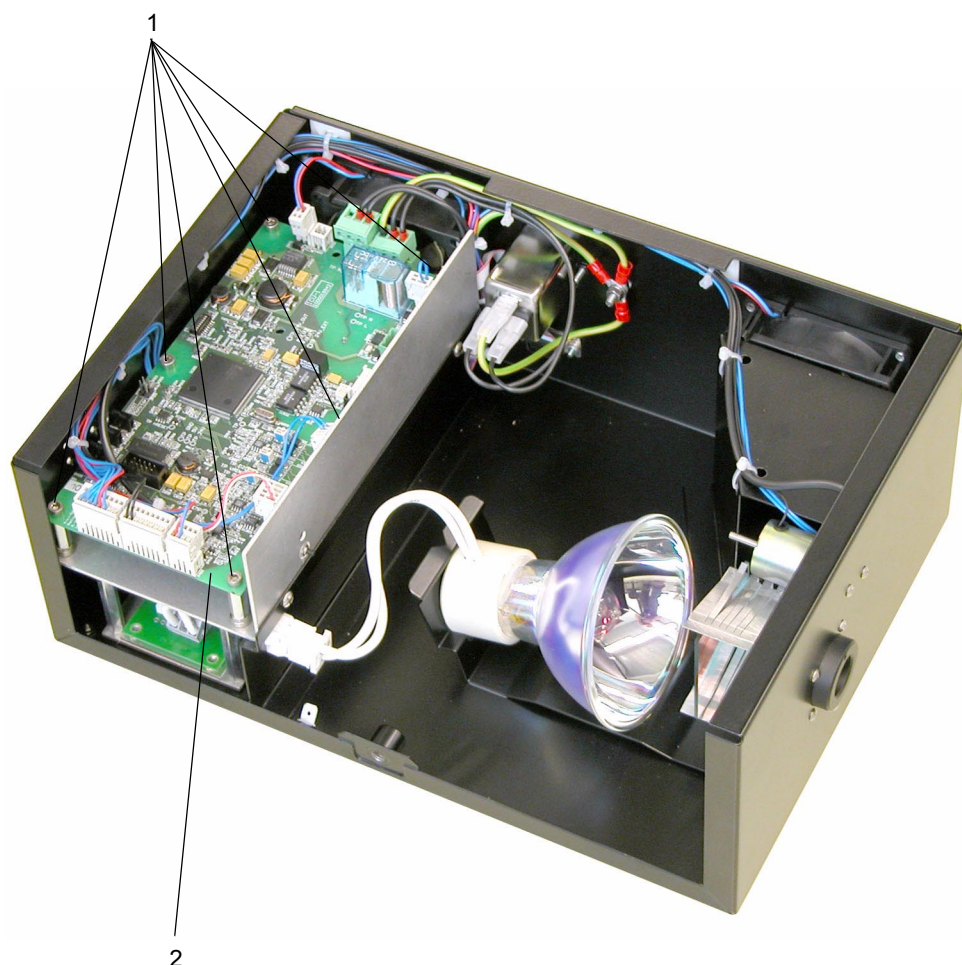

Fig. 22: Replacing the ICU
The ICU is shown in Fig. 22 (2) on 48.
7. **Fig. 22:** Disconnect all cables from the ICU mounting (2).
8. Unscrew and remove the six mounting screws (1).
9. Remove the ICU (2).
12. Insert and fasten the six mounting screws (1).